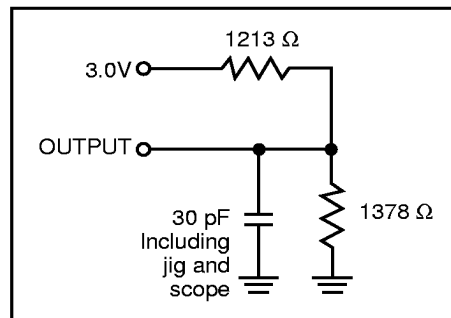

Figure 2. (-35 ns, -45 ns, -55 ns)
2. Tested with the load in Figure 2. Transition is measured  $\pm 500$  mV from steady-state voltage. Not 100% tested.